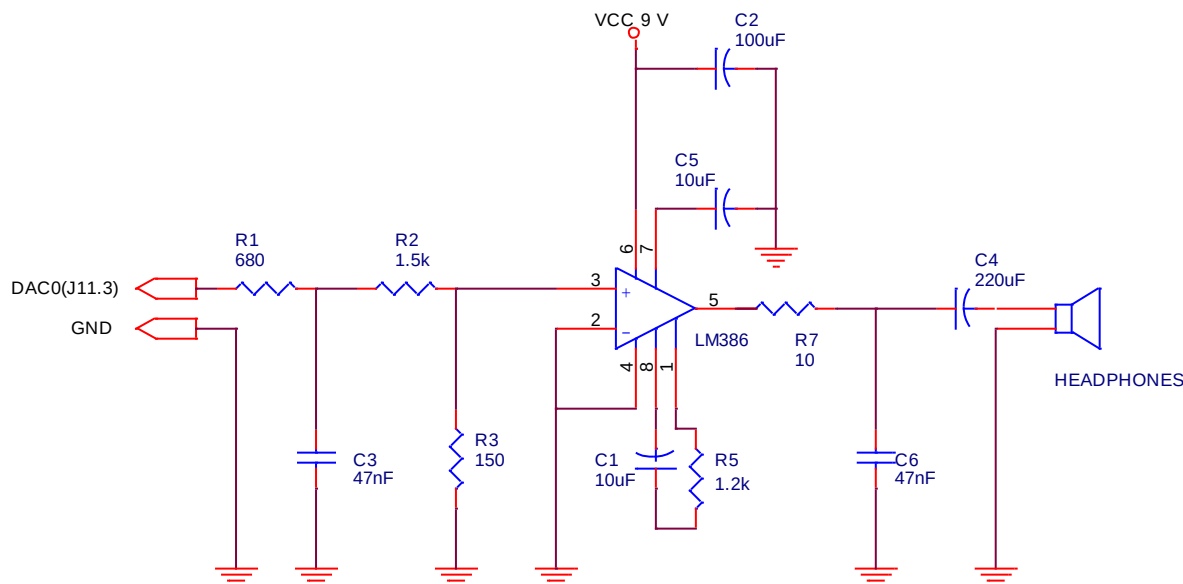

Fig 3.2.1.b. Output amplifier
- the output module diagram is shown in Fig. 3.2.1.b.